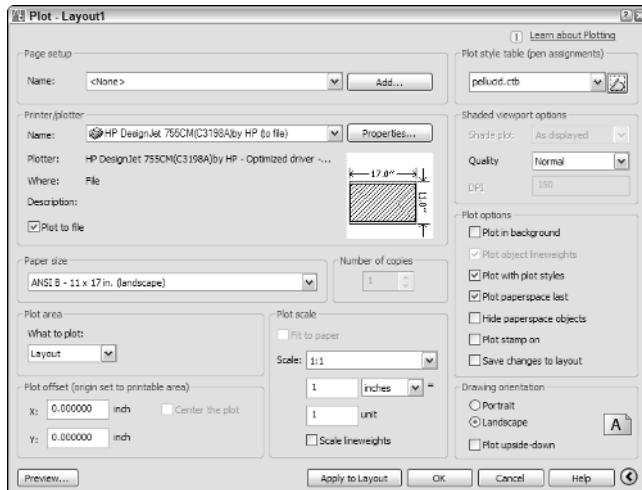

Figure 13-8:
- 3. In the Plot Style Table (Pen Assignments) area on the expanded Plot dialog box, select the CTB file from the drop-down list, as shown in Figure 13-8.**